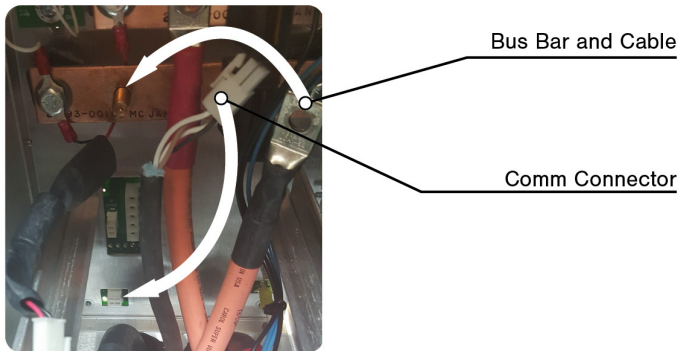

Figure 2: Comm Cable Connector
8. See Figure 2. Unplug the four-pin Molex Comm cable connector from the bottom left corner of the backplane. You may need to unbolt the cable on the bus bar above it to access the connector.